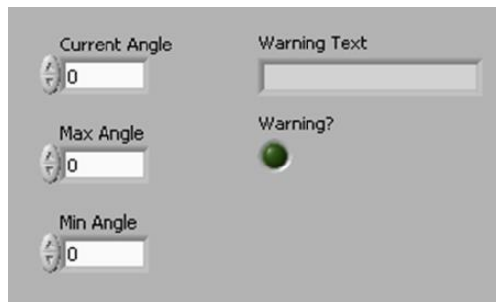

Figure 4.2 Determine Warnings VI Front Panel
- **Implementation:** Follow the instructions given below to create a front panel similar to Figure 4.2. The user enters the current angle, maximum angle, and minimum angle. Then, the front panel displays the warning string and the warning Boolean LED.
1. Open a blank VI and create the following front panel (shown in Figure 4.2).